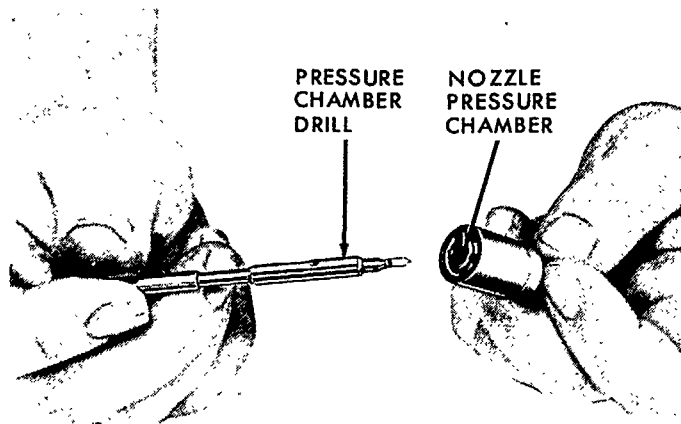

Figure 31
2. Clean the pressure chamber of the nozzle with the Pressure Chamber Drill, page 32, Figure 31.